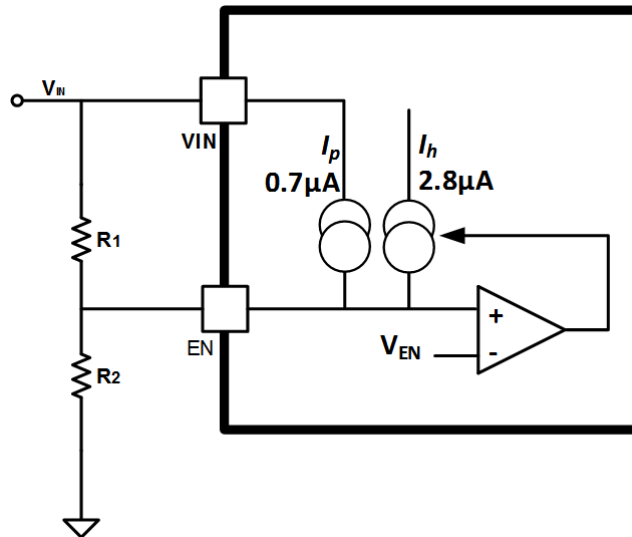

Fig. 32 Input Under-Voltage Lockout Setup
Under-voltage lockout can be used to prevent the output from starting until the input voltage is within its normal range. For input under voltage lockout (UVLO) adjustment, use the EN pin as shown in Fig. 32 to set the UVLO level by using two external resistors. Once the EN pin voltage exceeds 1.3V, an additional 2.8 $\mu$ A of current is added to provide input voltage hysteresis. Resistor  $R_{EN1}$  and  $R_{EN2}$  can be calculated using Equations (4) and (5) based on the required startup voltage and shutdown voltage.